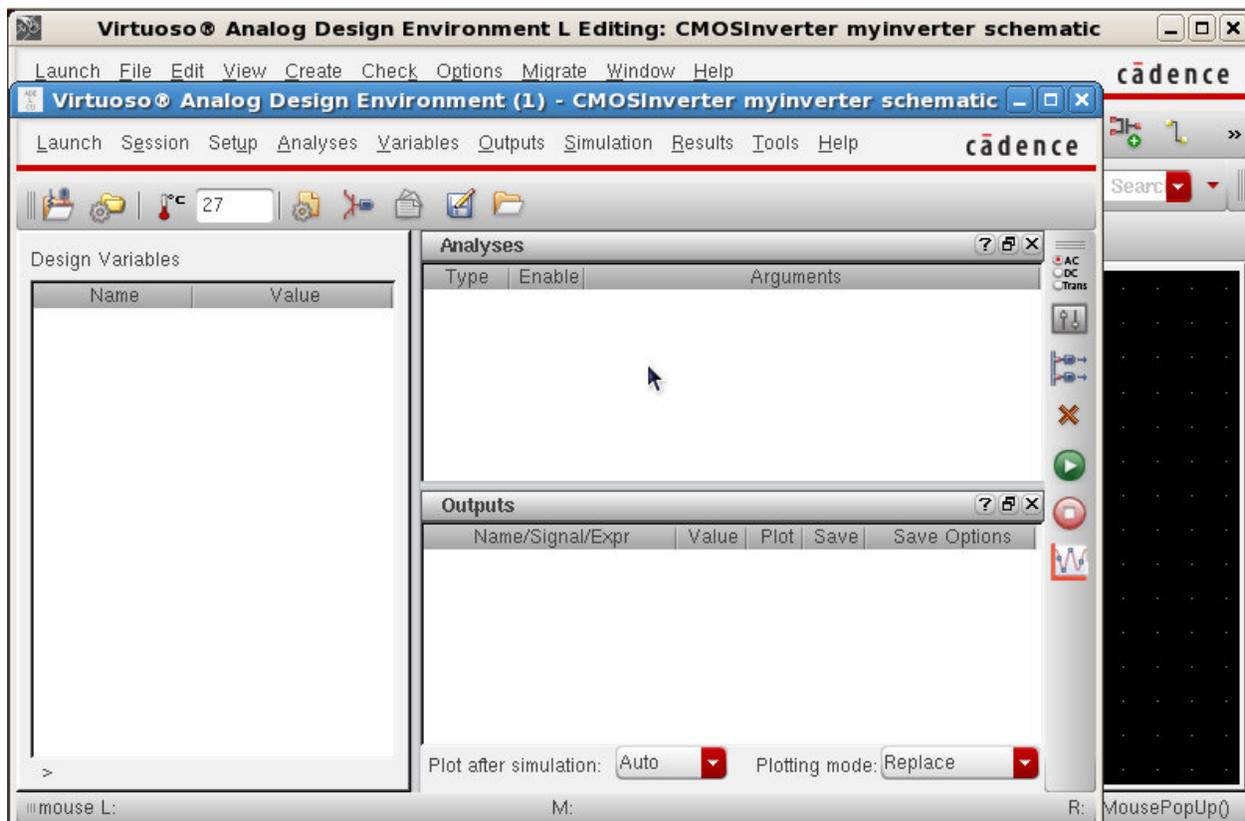

Fig. 12 ADE Window
Please see Fig. 12.
Tools -> Analog Environment. You will get “Virtuoso Analog Design Environment (1)” window (Fig 12).